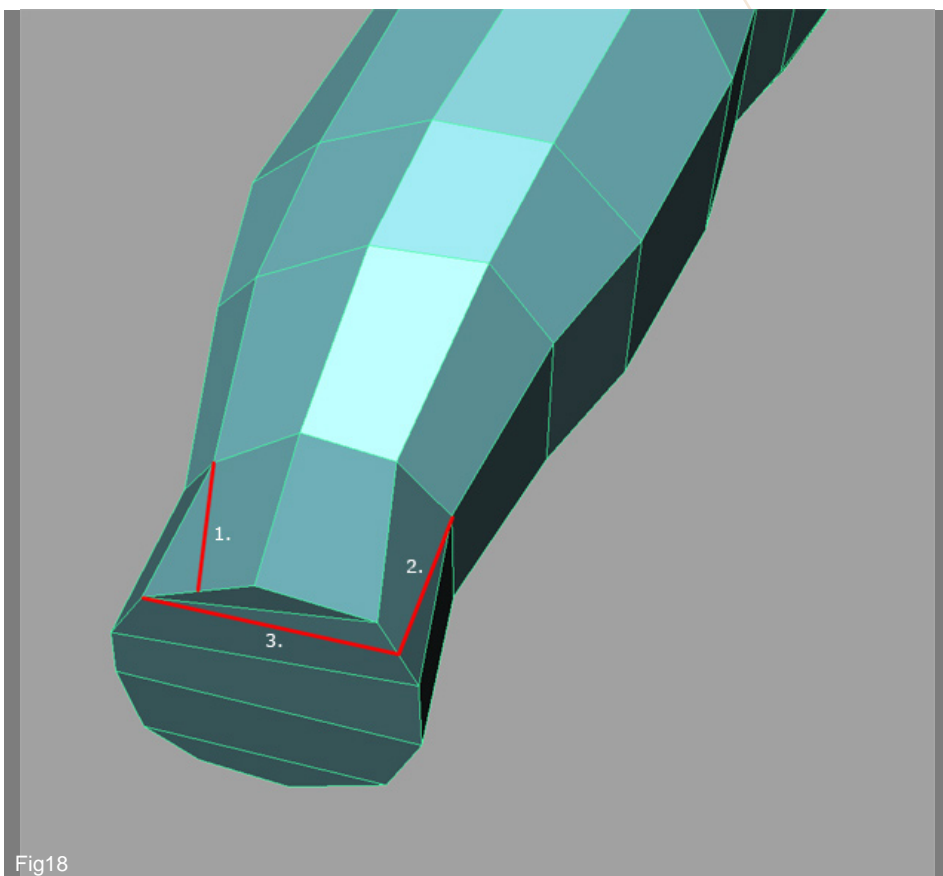

Fig18
18. In order to define the thumb we have to make some new splits. We're going to add 3 more edges (Fig18).